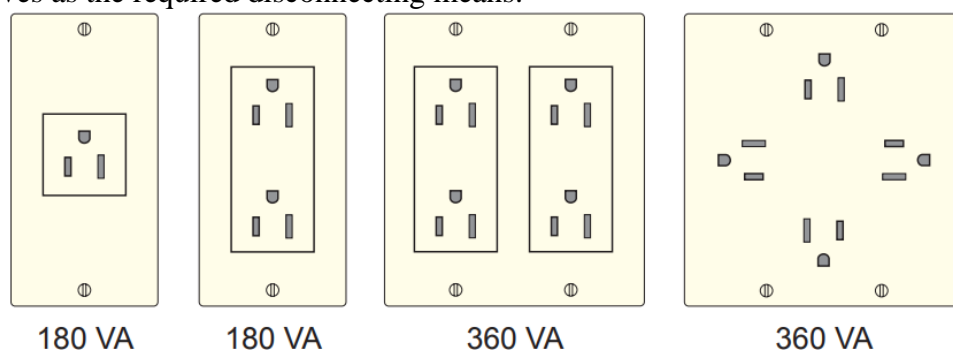

FIGURE 8-2 Minimum receptacle outlet allowance.
- A single piece of equipment consisting of a multiple receptacle comprised of four or more receptacles is required to be calculated at not less than 90 volt-amperes per receptacle. As shown in Figure 8-2, the first outlet has one receptacle on a strap or yoke, for a calculated load of 180 VA. The second outlet has two receptacles on a strap or yoke, for a calculated load of 180 VA. The third outlet shows two straps or yokes, for a total of four receptacles, resulting in a calculated load of 360 VA. The fourth outlet shows a single piece of equipment or wiring device with four receptacles. This represents a calculated load of 360 VA. See NEC 220.14(I).